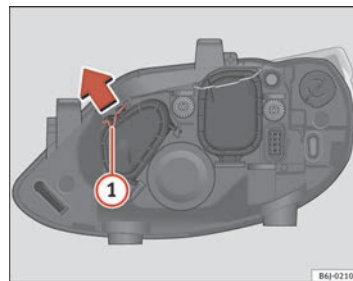

Fig. 144 Main beam headlights
- Move the loop ① in the direction of the arrow and remove the cover ⇒ page 223, fig. 144.